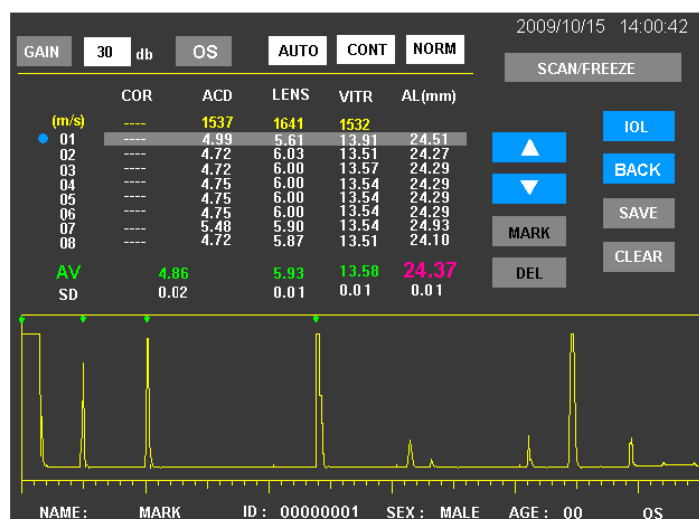

Figure 4.25 Measuring Data Display Interface
The GRU-5000A/P has the function of saving and displaying the measuring data. The saved measuring interface and data at the time of measuring can be loaded according to the operator's selection, which is convenient for observation and analysis. See Figure 4.25.
- 3) Under the Measuring Data Display Interface of ASCAN (see Figure 4.25), the data group can be selected and the measuring waveform be displayed by controlling the up and down keys. The Measuring Data Display Interface displays the measuring result saved initially but can not make amendment for the saved data and waveforms, and without measuring functions. The threshold value can be observed but not be amended. Under the Measuring Data Display Interface, it is able to enter the IOL Interface by clicking **IOL** to check the saved data or input